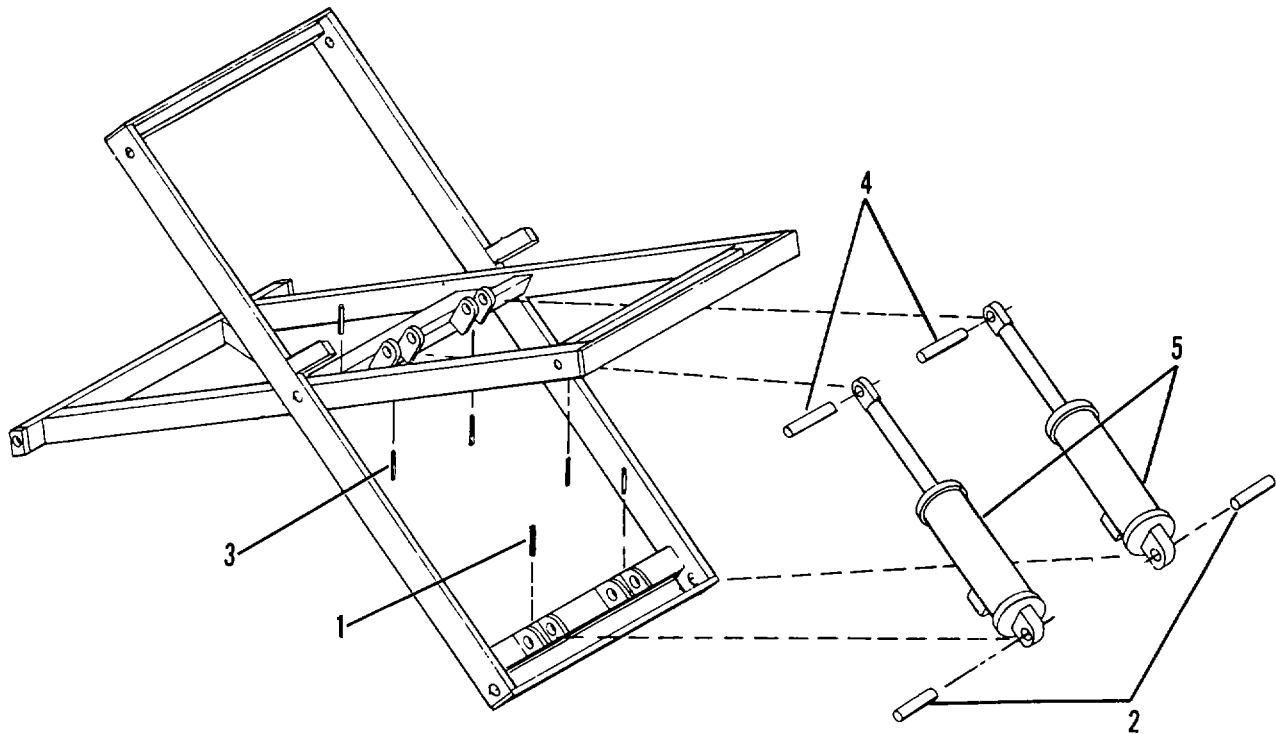

Figure 3-37.1. Lift cylinders.
- (2) Place cylinder (5, Figure 3-37.1) in position.